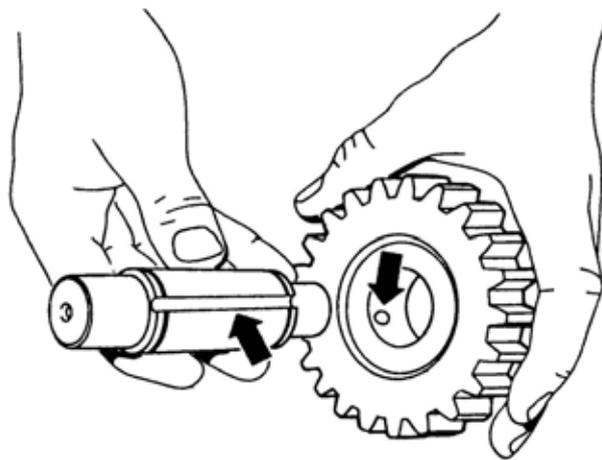
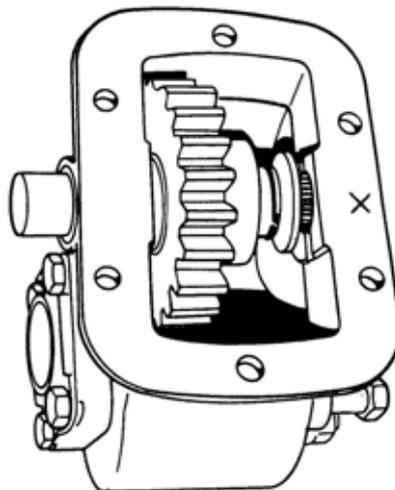

Figure 6 Channel and Steel Ball
Figure 7 Installing the Idler Shaft and Gear
- f. Position the idler shaft partially into the housing. Install a thrust washer and a circlip onto the shaft. Insert the steel ball into the detent in the idler gear, then position the idler gear in the housing. Align the channel in the idler shaft with the steel ball in the idler gear (Figure 6), then push the idler shaft further into the housing and into the idler gear (Figure 7). Install the second circlip into the groove on the idler shaft, then position the thrust washer against the housing. Push the idler shaft into the housing, butting the thrust washer against the housing. Position the first thrust washer against the housing and insert the first circlip into the groove in the idler shaft.